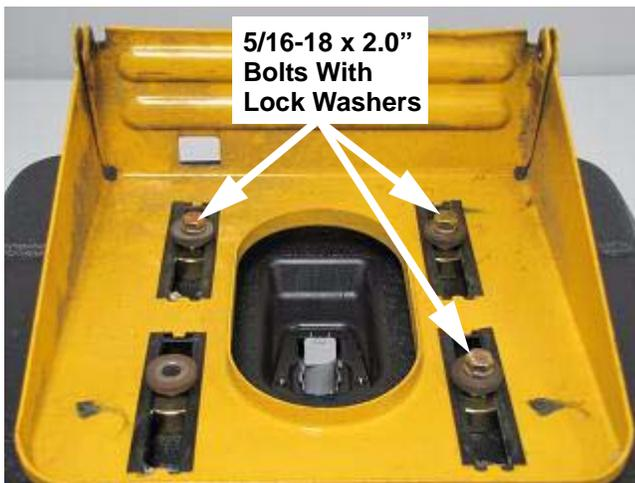

FIGURE 15
21. Install the four (4) Ref. #3 (736-0119) 5/16 lock washers onto the four (4) Ref. #4 (710-3103) 5/16-18 x 2.0" bolts.
22. Install three (3) bolts with lock washers into the three mounting holes as shown in Figure 15.